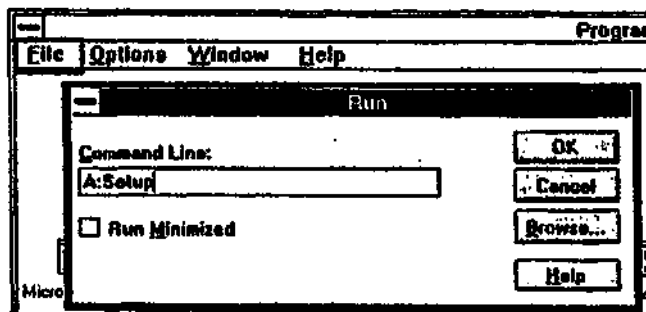

Figure 20. Running the Setup Program
4. (Figure 20): Open the Program manager in Windows and choose RUN from the File menu.